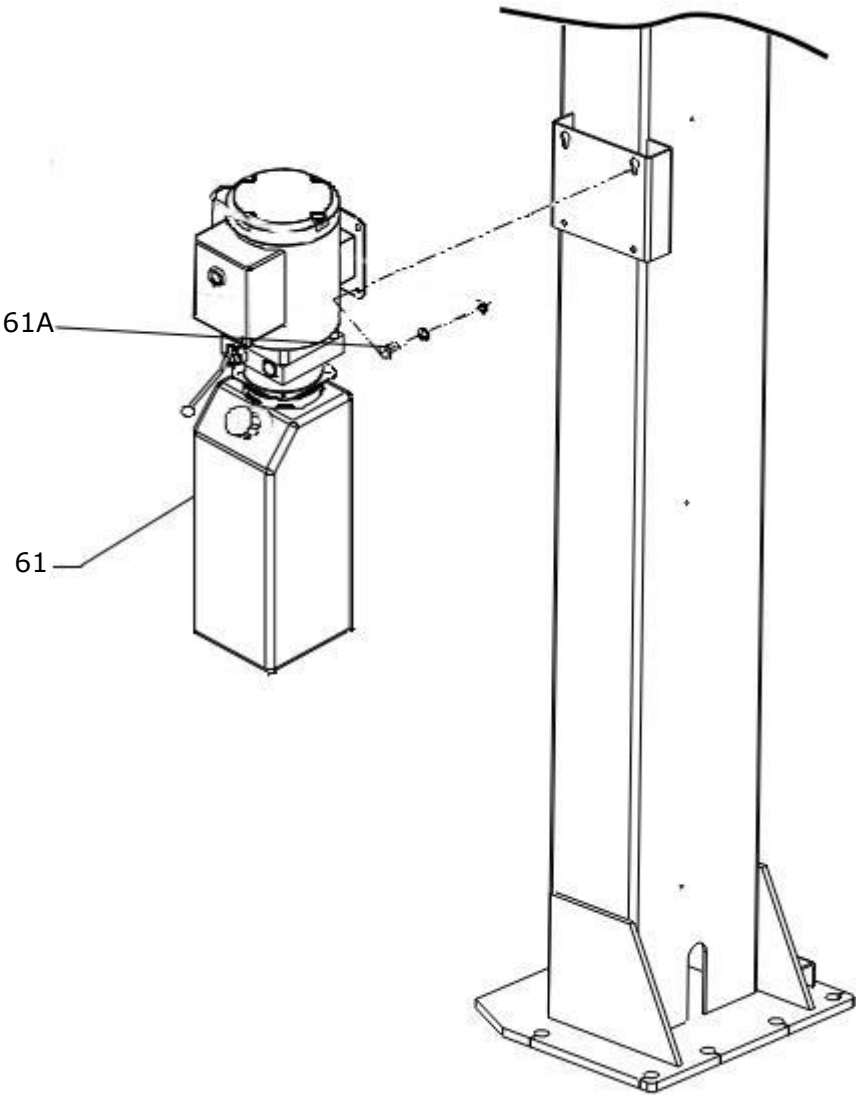

Fig.27
K. Install power unit (See Fig. 27)